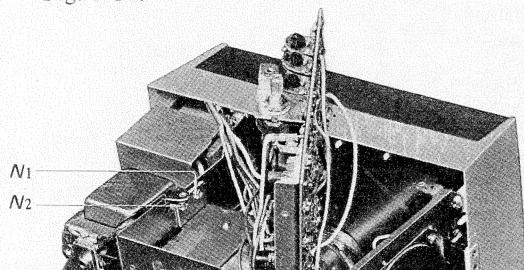

Fig. 2-17
2. Remove the two screws labeled N1 and N2 in Fig. 2-17.